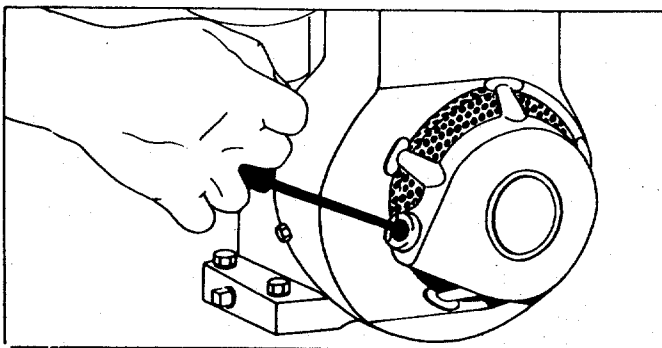

FIGURE 13. RECOIL STARTER
- Step 3. As illustrated in figure 13, grasp the recoil starter handle, pull out sharply, and hold it in the out position. (Do not let cord snap back.)